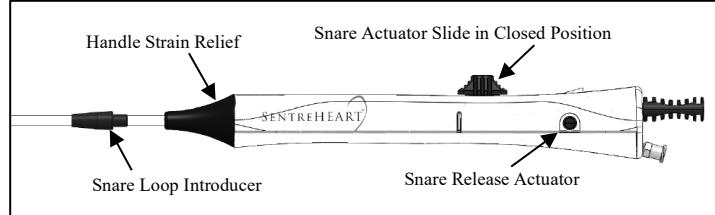

Figure 2 Closing the Delivery Snare
8. Close the LARIAT RS Delivery Snare by sliding the Snare Actuator Slide located on the top of the handle as shown in Figure 2. Retract until the Snare Actuator Slide stops as indicated by the “-” symbol or until resistance is felt.